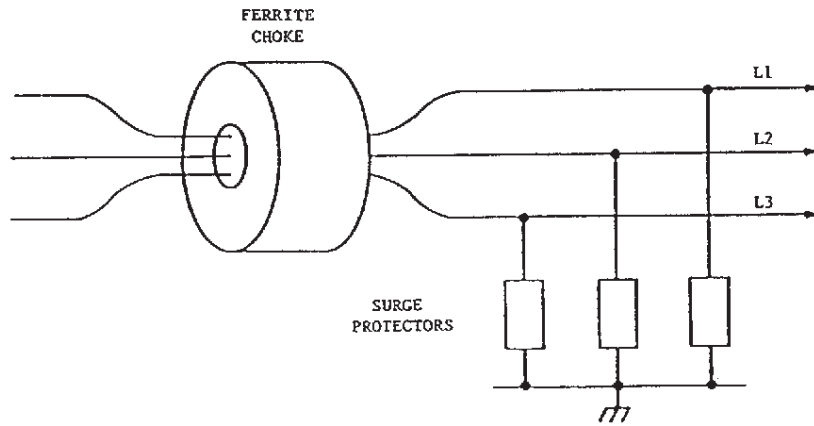

Figure b-7. Surge Protectors and Ferrite Choke
- Remedy - Transient protectors are very effective in preventing damage to the equipment when properly designed and installed. (See Figure b-7.)
See Figure b-7. All incoming ac lines should have a choke connected in series to limit the high frequency surges on the lines followed by a surge protector. The surge protector must be connected to the building ground system by short direct connections.